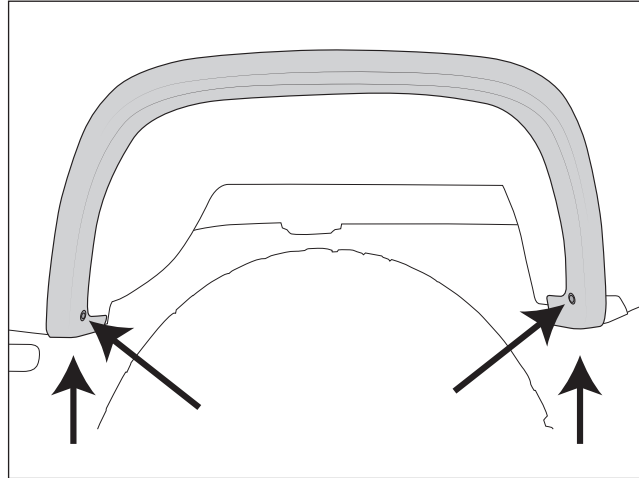

Figure 15
- A. Remove M4 torx bolts from inside lower wheel wells, M4 torx bolt from underneath front side of flare, and Push Pin from underneath rear side (fig. 15).